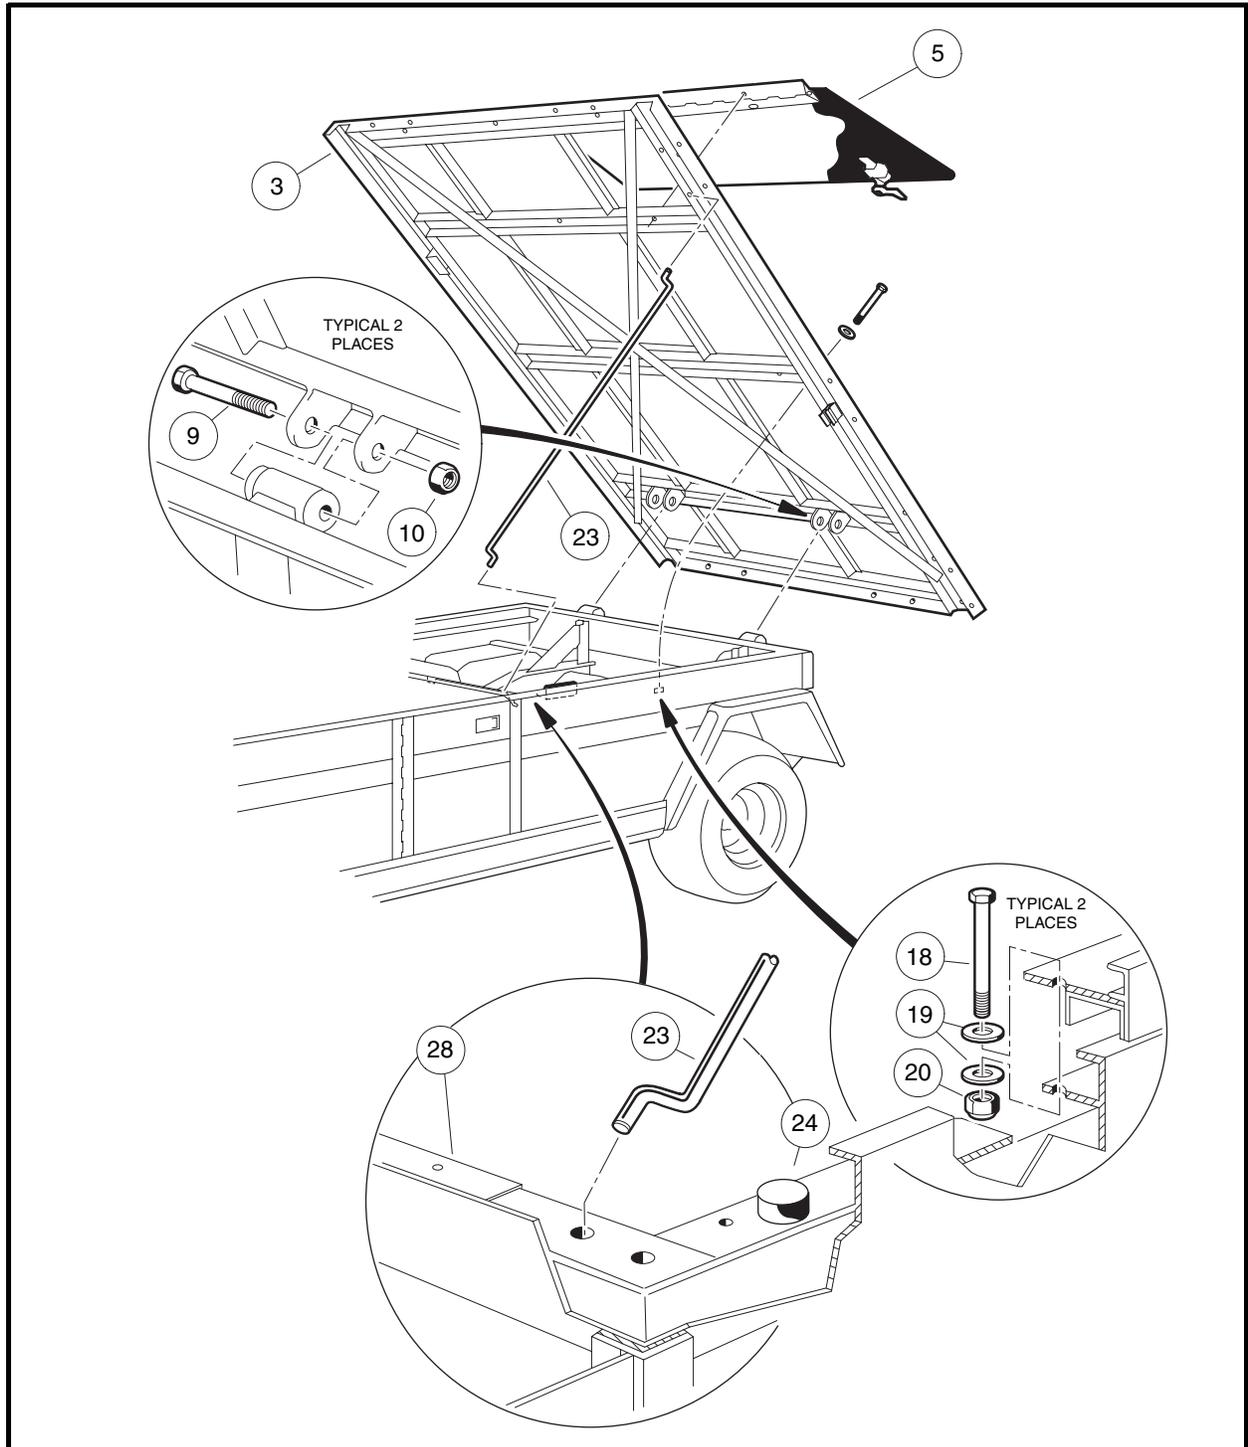

Figure 4-3 Flat Bed – Turf 6 and Carryall 6
1. Open access door in bed (5) and remove two lock nuts (20), four flat washers (19), and two 1/4 x 4 bolts (18). Close and latch access door (**Figure 4-3, Page 4-8**).
2. Remove two lock nuts (10) from left and right flat bed hinge assemblies.
3. Remove two 3/8 x 3 -3/8 bolts (9). Lift bed from vehicle.
1. Place bed on vehicle with bed front edge 1 inch (2.5 cm) from seat back support panel (28) and open access door (5) (**Figure 4-3, Page 4-8**).
2. Raise rear edge of bed 6 inches from vehicle frame and position bed so the left and right hand bed supports are resting on the support bumpers (24).
4. Start the bolts (9) into left and right hinge assemblies. It may be necessary to use an alignment tool to align holes in hinge bracket with steel bushing in hinge assembly.
5. Install a nylon lock nut (10) on each bolt and tighten to 14 ft-lb (18.9 N·m).
6. Install 1/4 x 4 bolts (18), flat washers (19), and lock nuts (20) through the bed frame and vehicle frame on both sides of vehicle. Tighten to 75 in-lb (8 N·m) (**Figure 4-3, Page 4-8**).